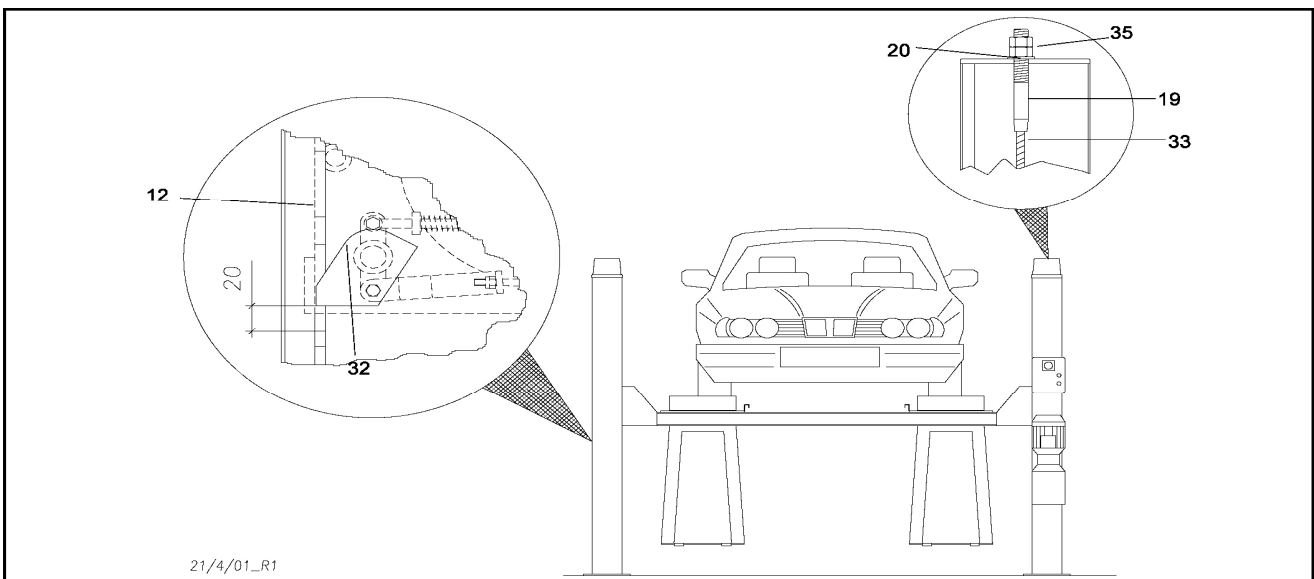

Fig.60 Adjusting the lift cables
Raise the lift to the maximum height and check if the four wedges (32) are fitted inside the slots of the safety rods (12). Check if the distance between the wedges (32) and the slots of the safety rods (12) on the 4 posts (1-2-3-4) is at least 20 mm from the support (fig. 60); a lower value would not allow the safety device to rotate, and it would stay attached to the rod.